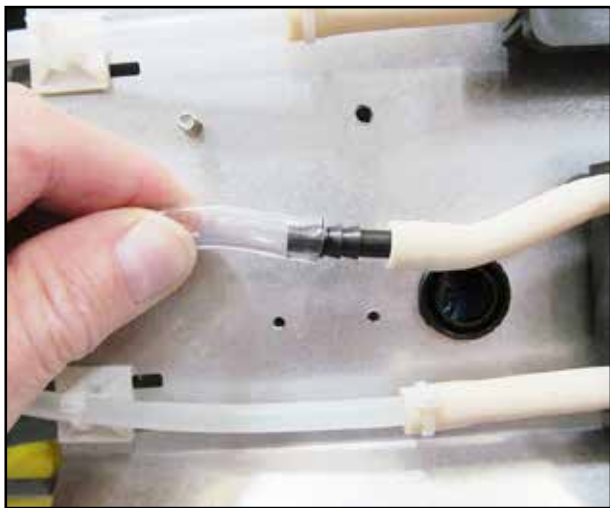

Fig. 4
4. Shorten hoses and re-install the hose barb fittings (Fig. 4).